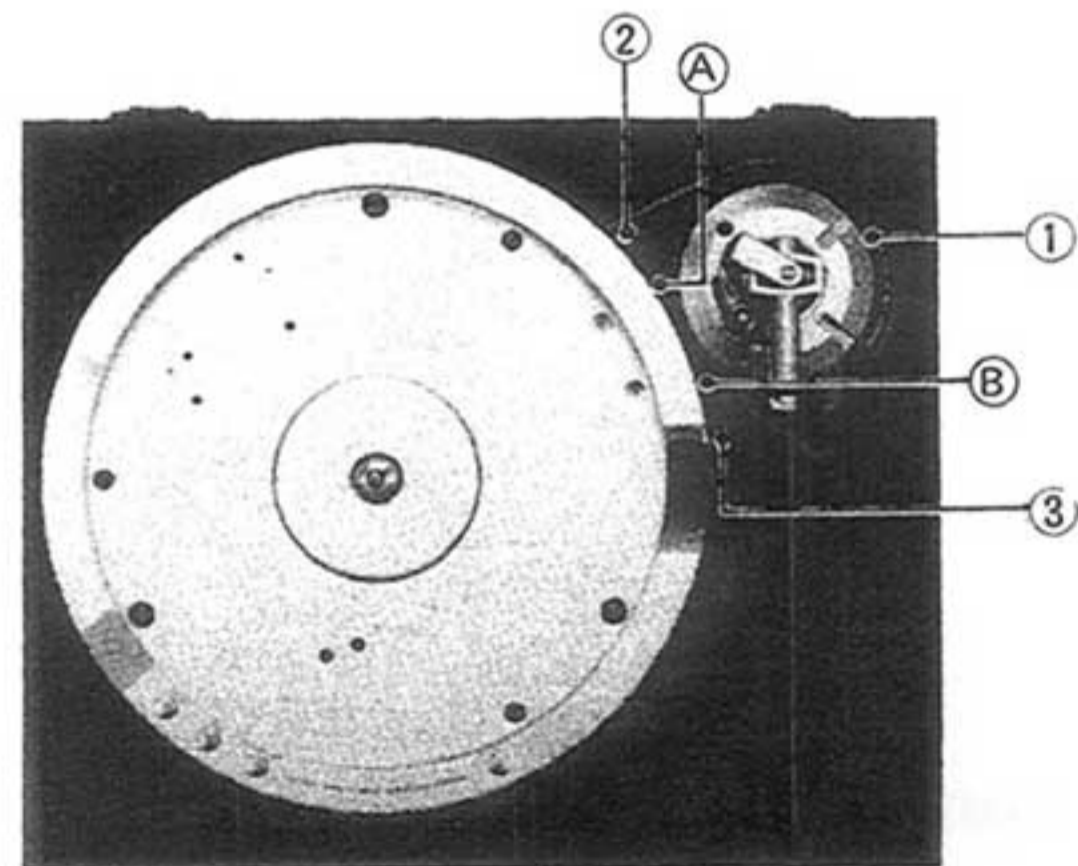

Fig. 4
6. Remove screws (A) and (B) (shown in Fig. 4) with a hex wrench of opposite side distance 3 mm.
7. Remove screws (1)-(3) and take out the tonearm base unit.